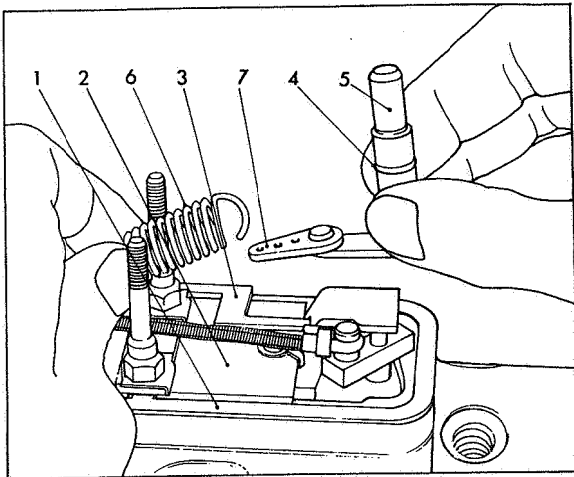
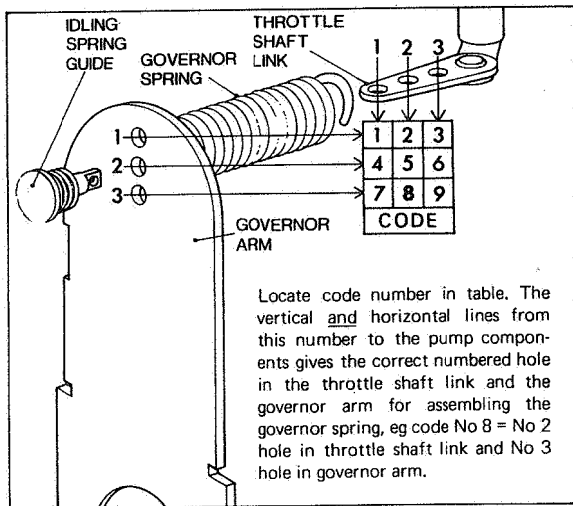

Fig 64 Assembling throttle link
Fig 65 Application of setting code
Position housing gasket (1) Fig 64 on the governor housing face with the gasket tongues placed in the slots of the control bracket (2). Slide the shut off bar (3) into the cut-out in the control bracket. Fit Protection Cap Part No 7144-459A to the end of the throttle shaft (5) and assemble new shaft seals (4). Place the idling spring onto the idling spring guide. Insert the idling spring guide into the correct hole in the governor arm and attach the governor spring (6) to the correct hole on the throttle shaft link (7) and idling spring guide as stated in Test Data or Code. The application of the setting code details are given in Fig. 65.